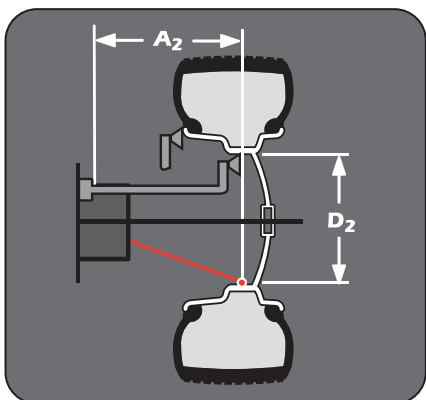

Figure 30 - A2 and D2 Tire Dimensions
**Note:** Auto entry is the preferred method for entering A2 and D2. However, on control panel models to manually enter A2, press Shift+A and to enter D2, press Shift+D. (see figure 30)